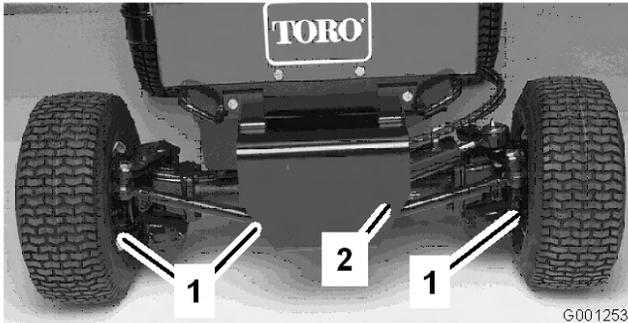

Figure 59
2. Remove nuts securing one tie rod ball joint to the mounting bracket on the axle and disconnect the ball joint from the axle (Figure 59).